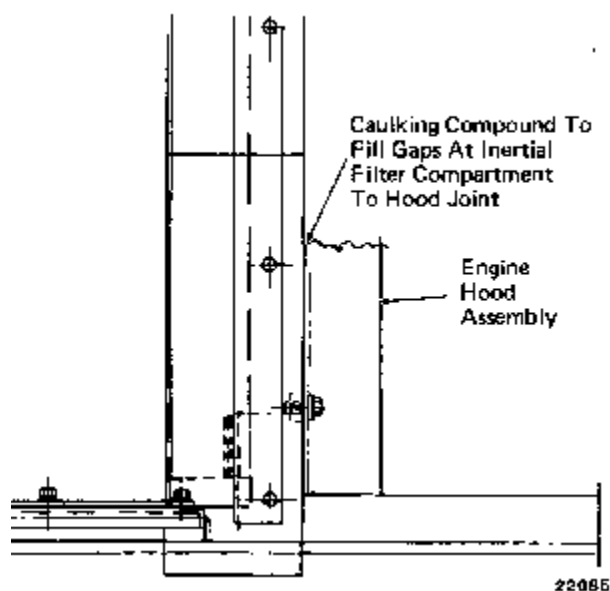

Fig. 38 - Cutaway Of Inertial Filter Compartment To Hood Joint Sealed With RTV
Plastic or rubber sealing compound is used to fill gaps at inertial filter compartment to hood joint, (4) Fig. 31, and cutaway, Fig. 38.